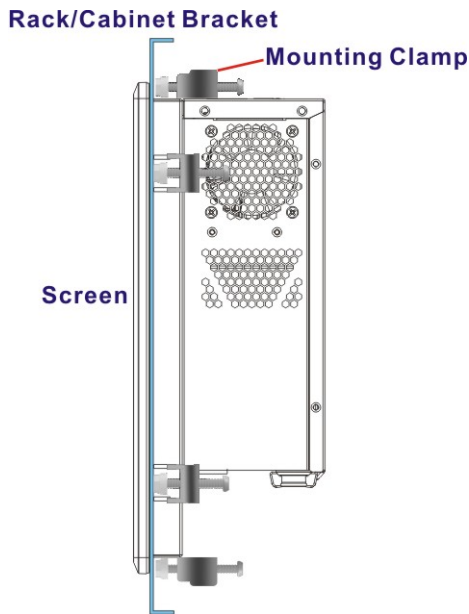

Figure 3-24: Secure the Rack/Cabinet Bracket
Step 2: Insert the mounting clamps into the mounting brackets and pre-formed holes along the edges of the front panel, behind the frame (**Figure 3-24**). The required number of mounting clamps may vary by models.
Step 3: Tighten the screws that pass through the mounting clamps until the plastic caps at the front of all the screws are firmly secured to the bracket (**Figure 3-24**).